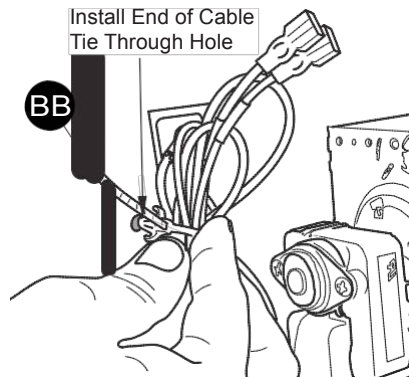

Figure 8 - Securing Blower Wires
8. Bundle the wiring with the cable tie (BB). Attach cable tie to the top panel through the hole as shown in Figure 8. This is to avoid any heat damage to the insulation board.